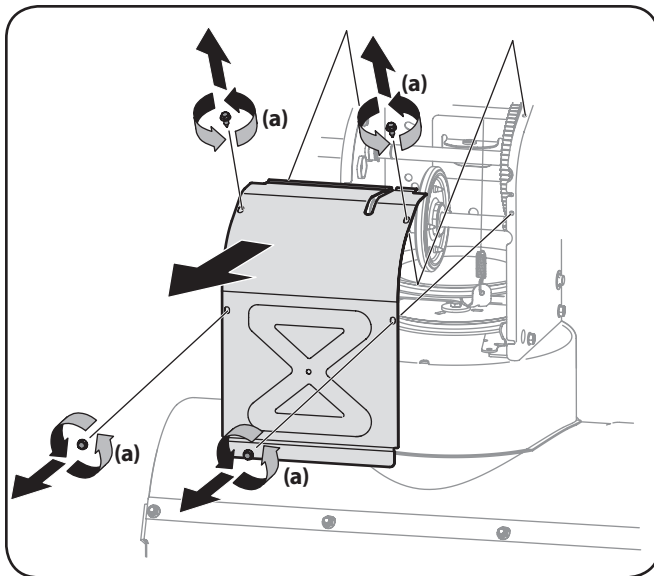

Figure 7-5
6. Remove the frame cover from the underside of the snow thrower by removing the self-tapping screws (a) which secure it. See Figure 7-5.
3. Remove the frame cover from the underside of the snow thrower by removing four self-tapping screws which secure it. See Figure 7-5.